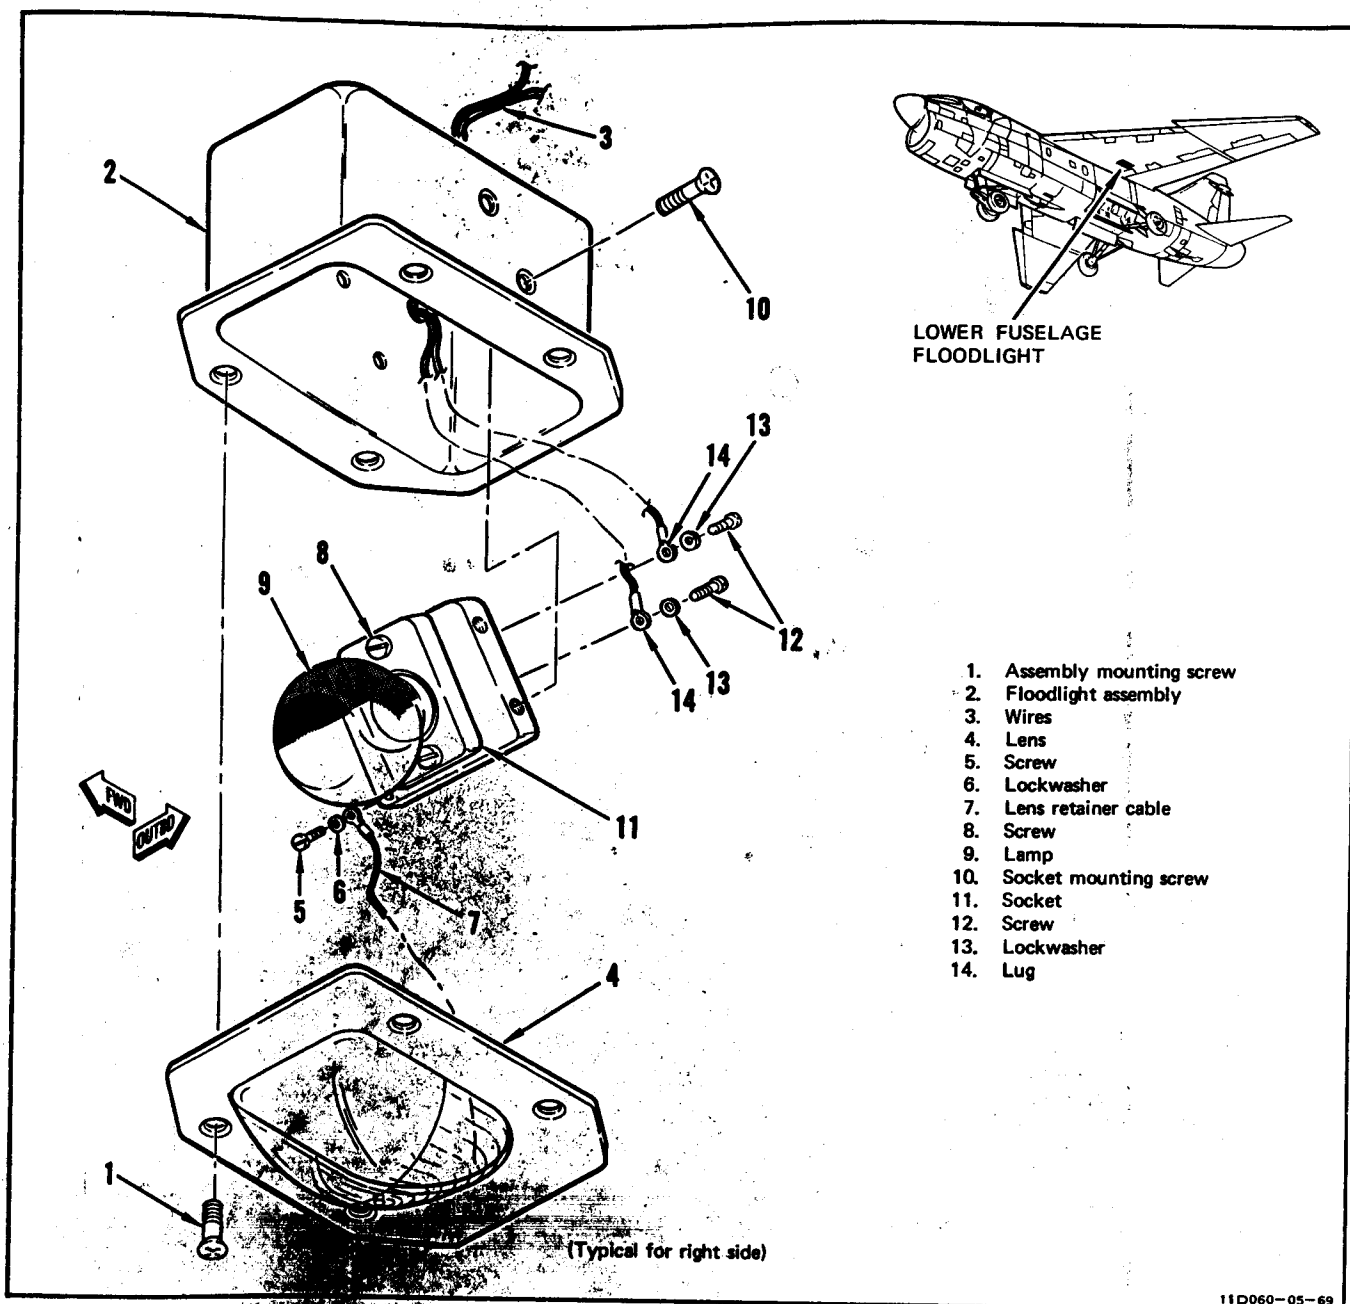

Figure 8-11. Fuselage Floodlight Assembly Removal and Installation
a. Remove lens retaining screw (1) and washer (2) securing lens to light assembly.
b. Lift large end of lens (3) and pull forward to release lens foot from light assembly clip. Remove lens and check for damage.
c. Replace lamps (4) if defective.
d. Check and replace gasket (5) if damaged.
e. Position lens (3) (new lens if required) by inserting the lens foot into the light assembly clip, and then seating it on the light assembly base. Ensure that lens is seated on gasket and that lip on gasket is inside of lens.
f. Secure lens to light assembly with retaining screw (1) and washer (2).
**8-60. FUSELAGE FLOODLIGHT ASSEMBLY REMOVAL AND INSTALLATION.** (See figure 8-11.)
a. Remove four assembly mounting screws (1) securing floodlight assembly (2) to airplane.
b. Lower floodlight assembly from airplane and cut electrical wires (3).
**8-63. FUSELAGE FLOODLIGHT ASSEMBLY LENS REPLACEMENT.** (See figure 8-11.)
a. Remove four assembly mounting screws (1) and move lens (4) to one side.
b. Remove screw (5), lockwasher (6), and lens retainer cable (7) from socket (11).
**8-64. FUSELAGE FLOODLIGHT ASSEMBLY LAMP REPLACEMENT.** (See figure 8-11.)
a. Remove four assembly mounting screws (1) and allow lens (4) to hang from lens retainer cable (7).
b. Loosen screw (8) and remove lamp (9) from socket (11).
**8-65. FUSELAGE FLOODLIGHT ASSEMBLY SOCKET REPLACEMENT.** (See figure 8-11.)
b. Lower floodlight assembly (2) to gain access to four socket mounting screws (10).